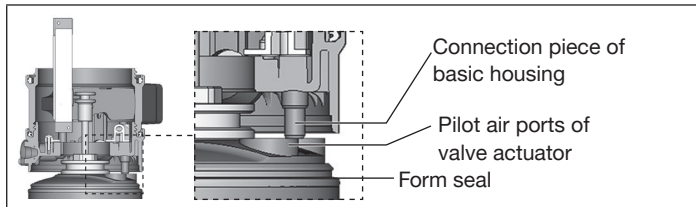

Fig. 6: Aligning the position sensor with the actuator
- Align the connection piece of the basic housing with the pilot air ports of the valve actuator (see “Fig. 6”).